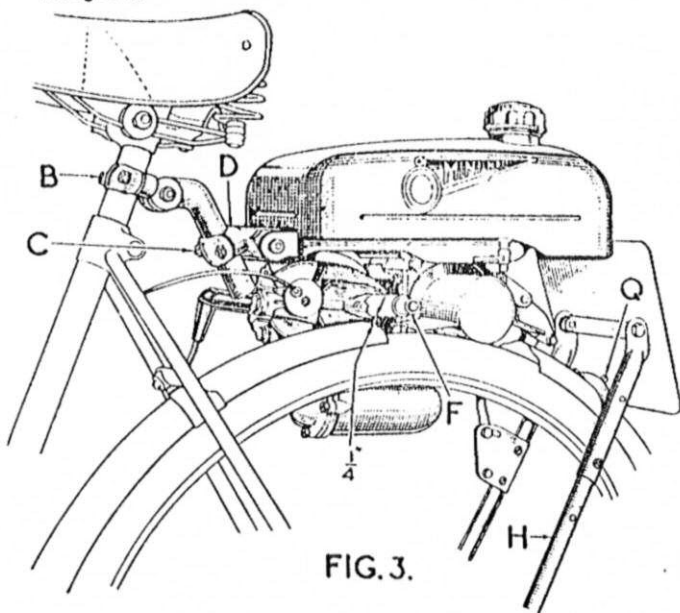

FIG. 3.
- (4) Now replace the unit as before and the roller will rest on the tyre. Move again the sliding hinge "D" to bring the tank afresh into a horizontal position. Make sure now that the cylinder fins and the inlet tube are at least  $\frac{1}{4}$  in. clear of the mudguard. If the clearance is less, it is necessary to cut away the sections of the mudguard which may endanger the free movement of the engine. (Fig. 3.)
- (5) Now look at the bicycle from the rear. Make sure that the tank top is parallel to the spindle of the rear wheel of the bicycle and that the roller rests well on the middle of the tyre.
- (6) Now tighten the clamp nuts "B" and sliding hinge nuts "C." (Fig. 3.)